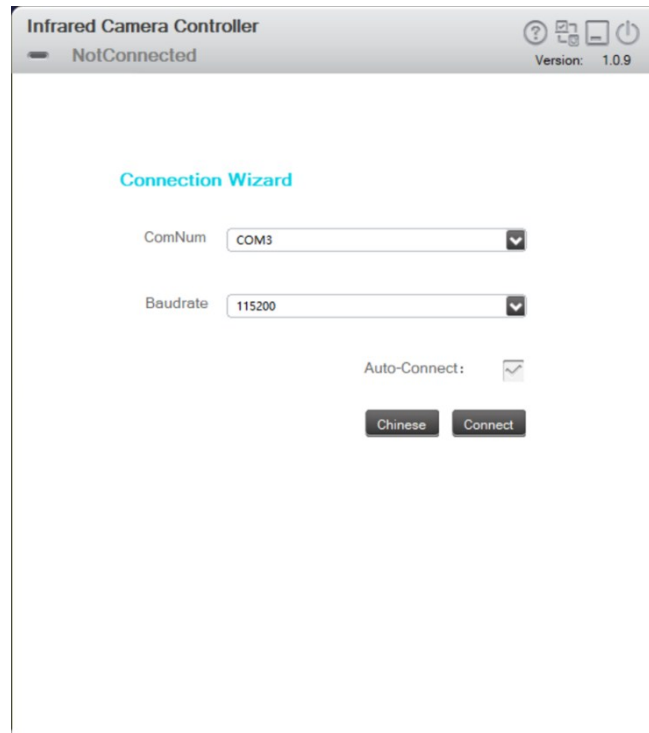

Figure 4-10 Connection wizard interface
2. When the software is opened for the first time, the connection wizard interface is an English interface by default, the upper left corner shows that the current connection status is "NotConnected", and the upper right corner shows the software version number, as shown in Figure 4-10.